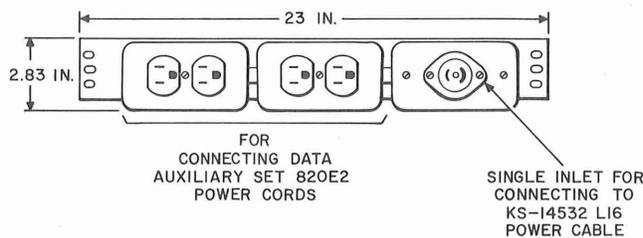

Fig. 7—590A Panel, Front View
- (1) Mount a 590A panel (Fig. 7) in the top of the cabinet (Fig. 5).
- (2) Connect the KS-14532 L16 power cable (shipped with the 590A panel) to the single inlet on the 590A panel, then run the cable out of the cabinet through the rear access port. Connect the cable to the ac wall receptacle provided by the customer.
- (3) Connect the ac power cord of each DAS 820E2 to an outlet on the 590A panel.